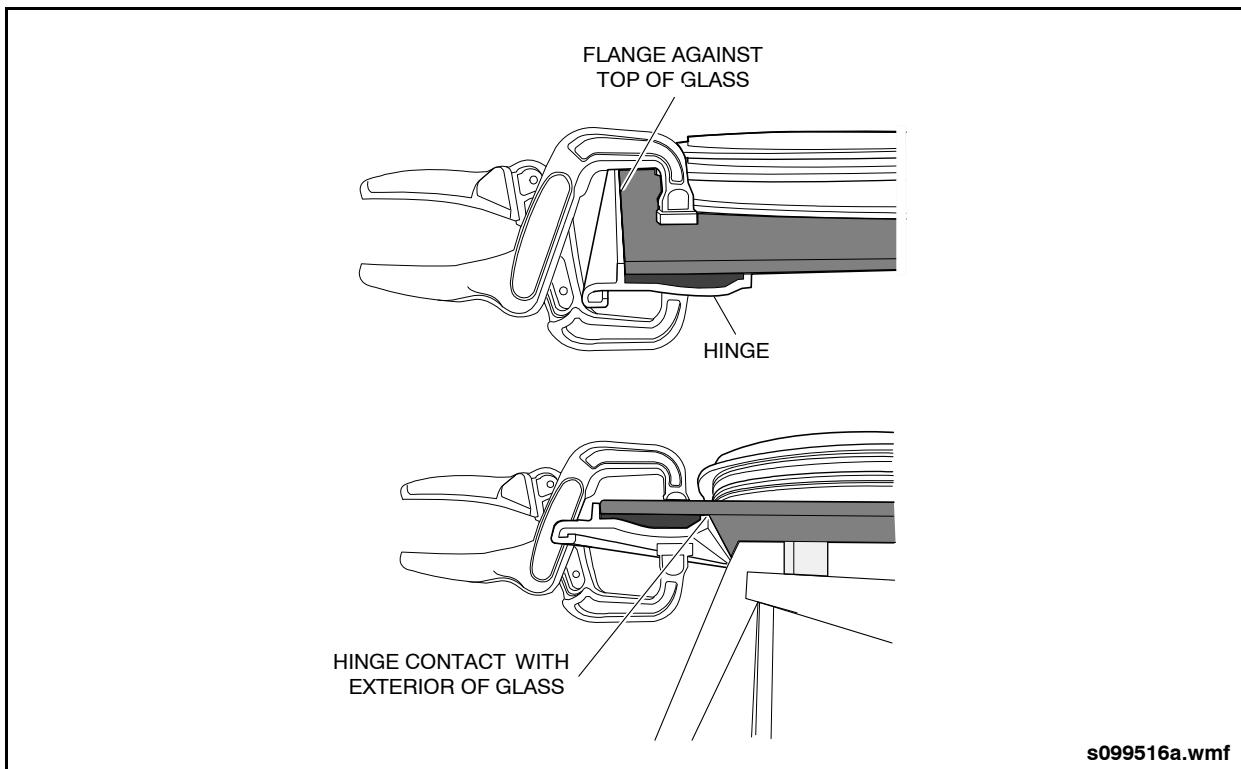

Fig. 14-20: Flange & Hinge to Glass Contact
6. Ensure the hinge is positioned properly. The top flange of the hinge should be positioned against the top of the glass. The maximum allowable gap is 1/32". The bottom of the male hinge should correctly contact the exterior surface of the glass. The ends of the hinge extrusion are to be flush with the edges of the glass. See "Fig. 14-20: Flange & Hinge to Glass Contact" on page 24.